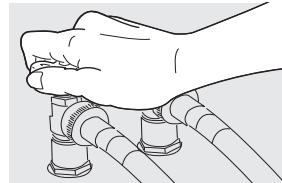

Fig. 7
- Turn on the water and check for leaks. (Fig. 7).